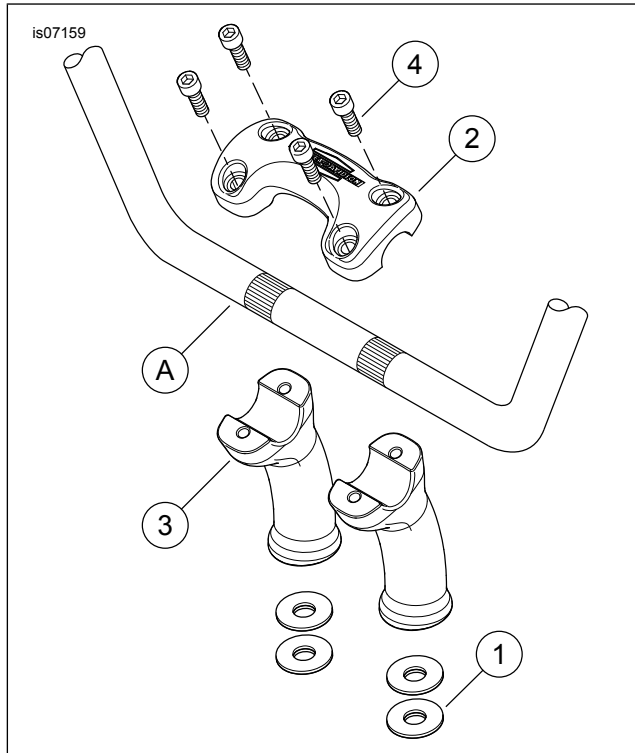

Figure 1. Service Parts: Pullback Riser Kit
See Figure 1 and Table 1.
1. Install the riser mounting hardware in the same order as removed, with the following exceptions: **For 2005 and earlier FXDL models:** See Figure 1. Install two flat washers (1) immediately below each riser. **For 2005 and earlier FXST and FXSC models:** Install one flat washer (1) immediately below each riser. **For all other models:** Discard flat washers (1).
- a. Hand-tighten two front screws (4).
- b. Snug the two rear screws (4).